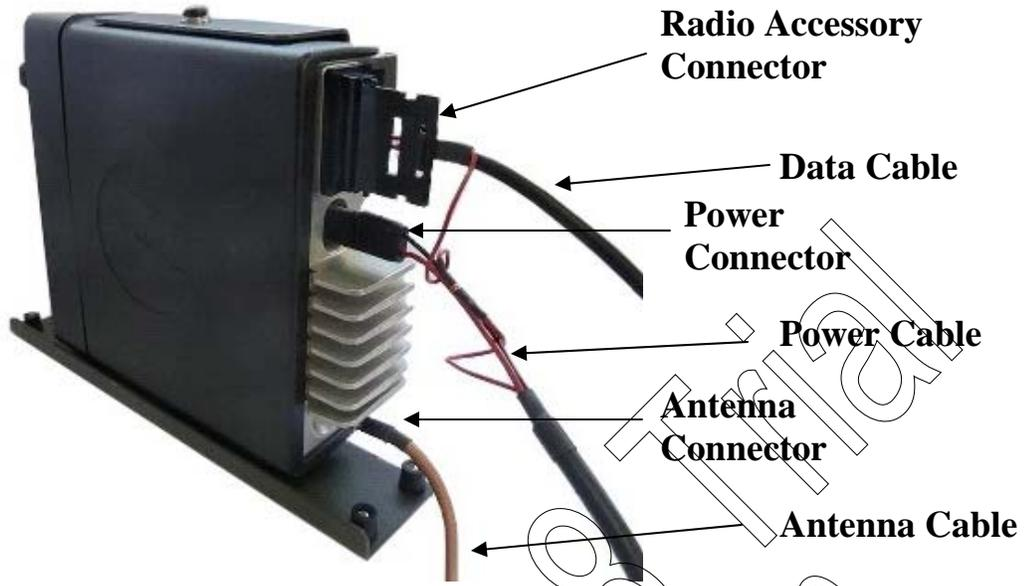

Figure 21-41 MotoTrbo Radio Cable Connections
2. Connect the USB connector of the USB data cable (FKN8644A) to one of the USB host ports on the ACE3600 CPU module. Connect the other side of the cable (26-pin connector) to the Accessory connector on the radio. (See Figure 21-41.)